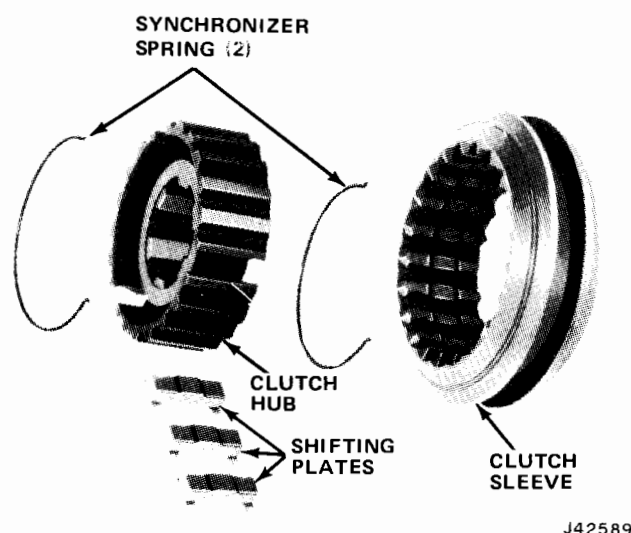

Fig. 6-25 Second-Third Synchronizer Assembly
(13) Install Second gear and blocking ring on main shaft.
(14) Assemble Second-Third synchronizer assembly (fig. 6-25). Index sleeve to hub using alignment marks